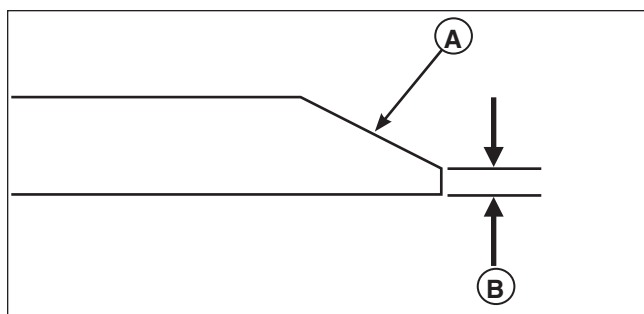

Figure 24. Sharpening the Mower Blade
3. Keep the original bevel (**A, Figure 24**) when grinding. Do NOT change the mower blade bevel.